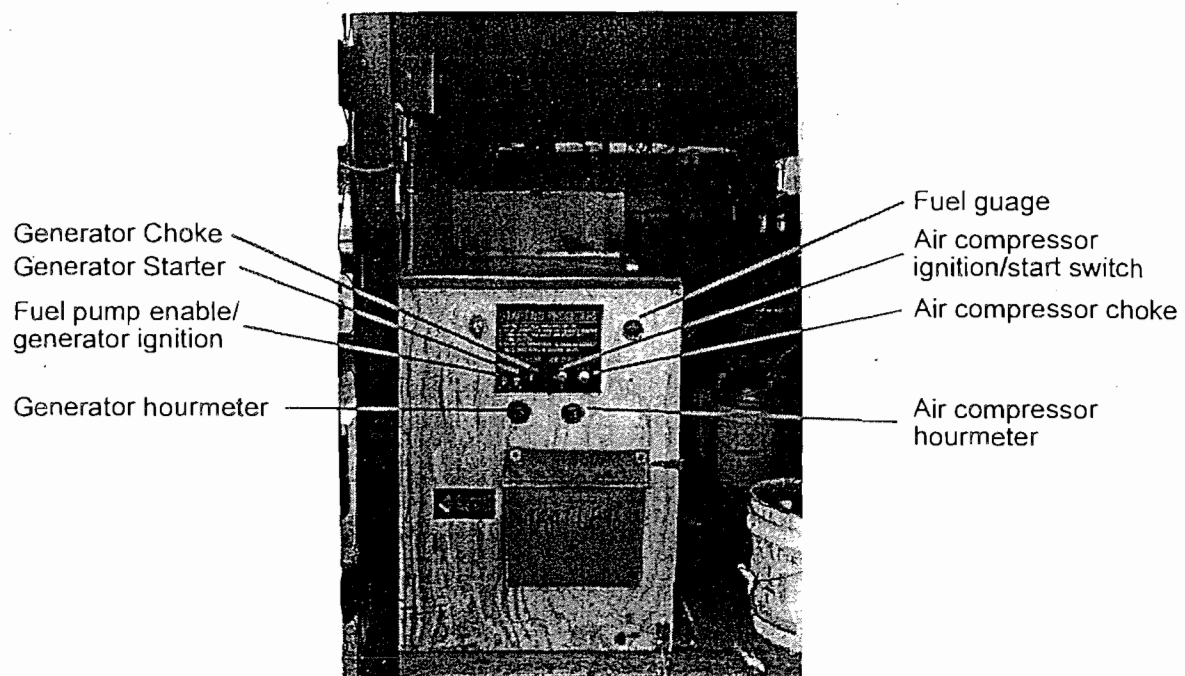

Figure 2.3.2: Engine Control Panel
2.3.3 Apply full choke. The choke actuation knob is located near the ignition switch on the engine control panels. (Figure 2.3.2)